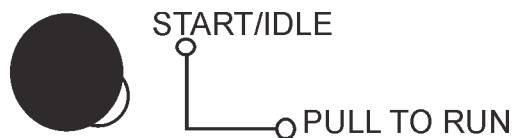

Figure 48. Engine Throttle Control Lever (Low)
5. Push the engine throttle control lever inward (Figure 48) to the “**LOW**” position.